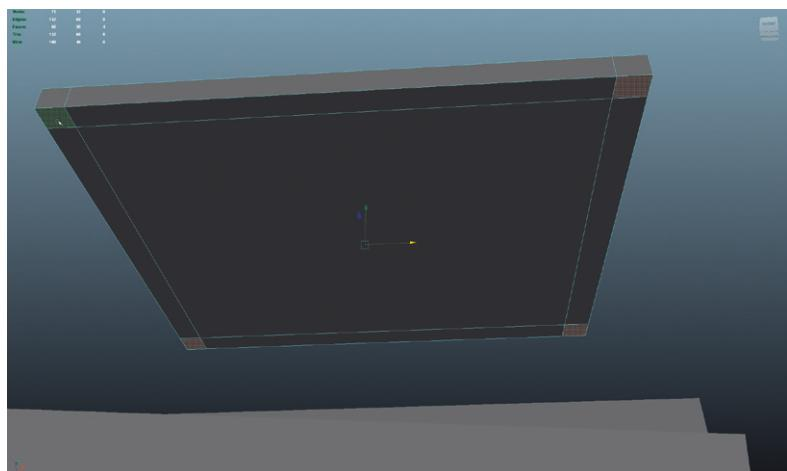

FIG 3.53 Selecting the faces that will be the legs.
Step 9: Select the faces that will become the legs. Do this by rotating your view to below the cube. Select the faces shown in Fig. 3.53 (select one and then shift-select each of the others).